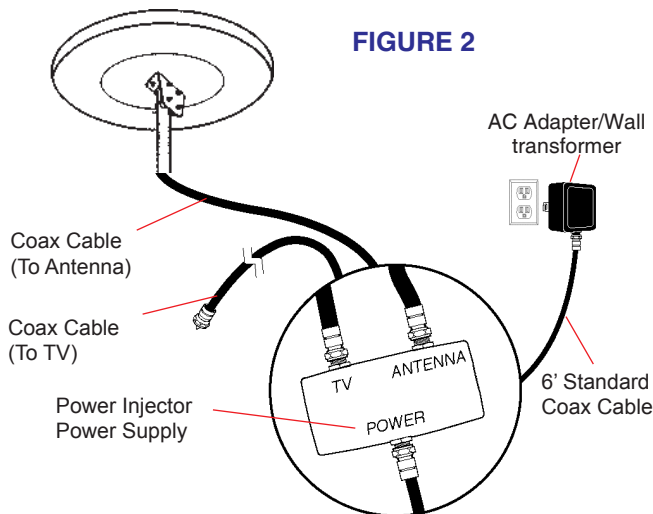

FIGURE 2
STEP 2. Attach "F" connector on download cable power injector jack marked "ANTENNA". See figure 2.
STEP 3. Attach "F" connector on cable to analog TV/DTV receivers to power injector jack marked "TV". See figure 2.